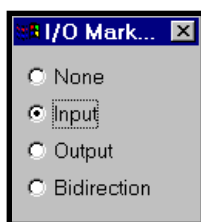

Figure 1. I/O Markers Dialog Box
2. Select the appropriate polarity from the pop-up dialog box (Figure 1). Or select None to remove the marker.